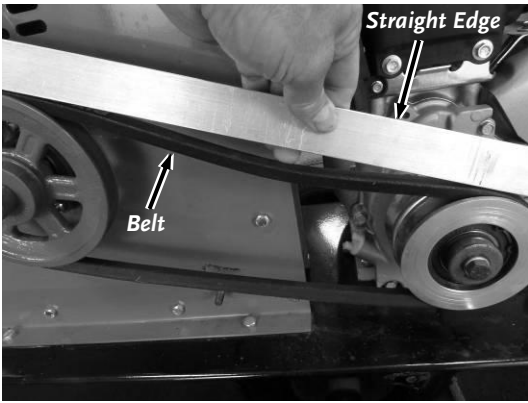

Figure 27
6. Place a Straightedge on the Belt (over the Clutch and Sheave) and push down on the Belt to measure the deflection from the Straightedge to the Belt with a tape measure (**Figure 27**).